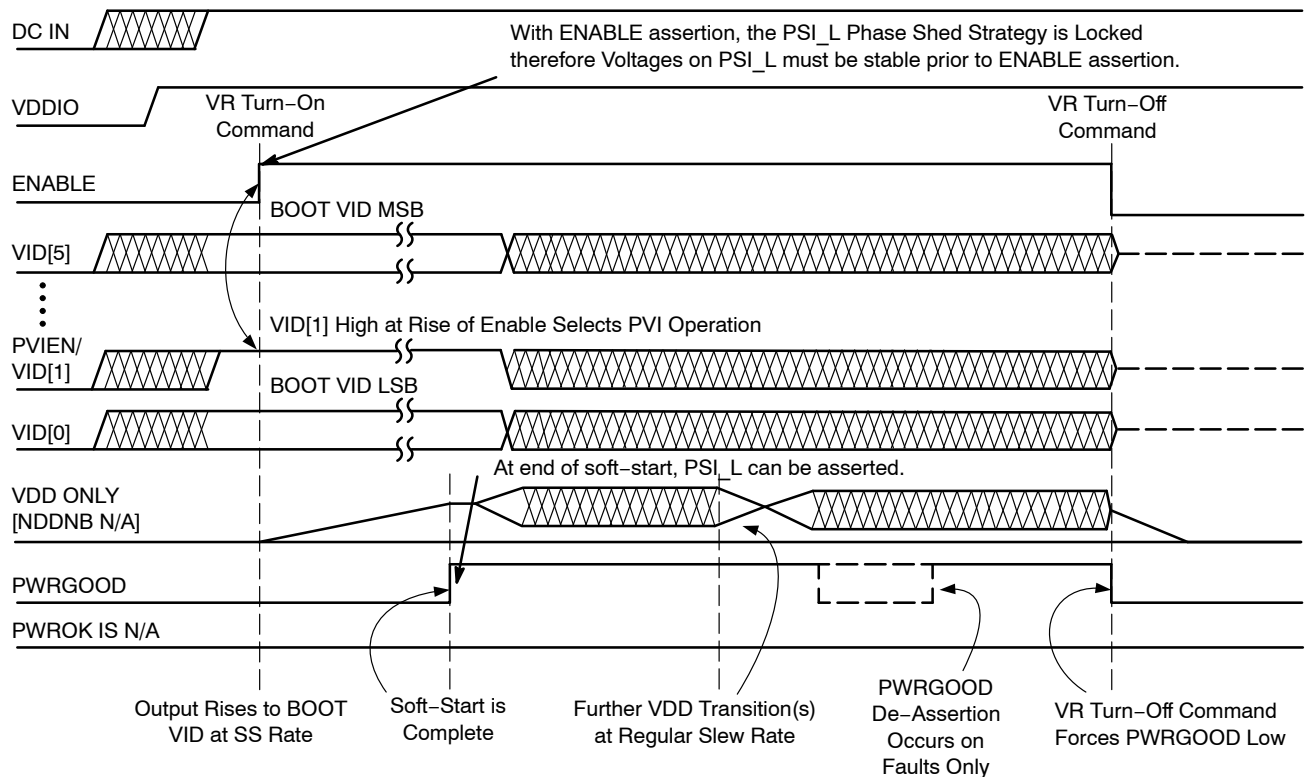

Figure 9. Power Up Sequences in Parallel Mode Operation
PVI is a 6-bit wide parallel interface to address the CORE Section reference. NB is kept in HiZ mode. Parallel mode operation is depicted in Figure 9. Voltage identifications for the 6bit AMD mode is given in Table 2.
- The NCP6251 will accept new VID codes on the parallel VID interface (See Table 2). See Figure 9 for details.